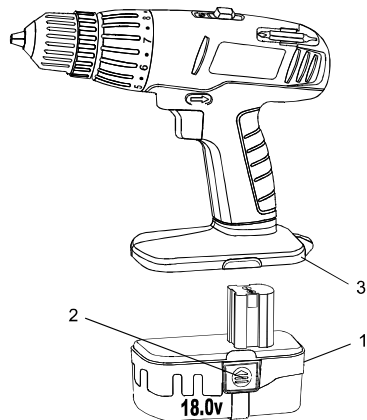

Fig. 2
1. Remove the discharged battery pack (1) from the tool by pressing the battery release buttons (2) on each side of the battery pack and pulling the battery pack out of the tool handle (3) (Fig. 2).